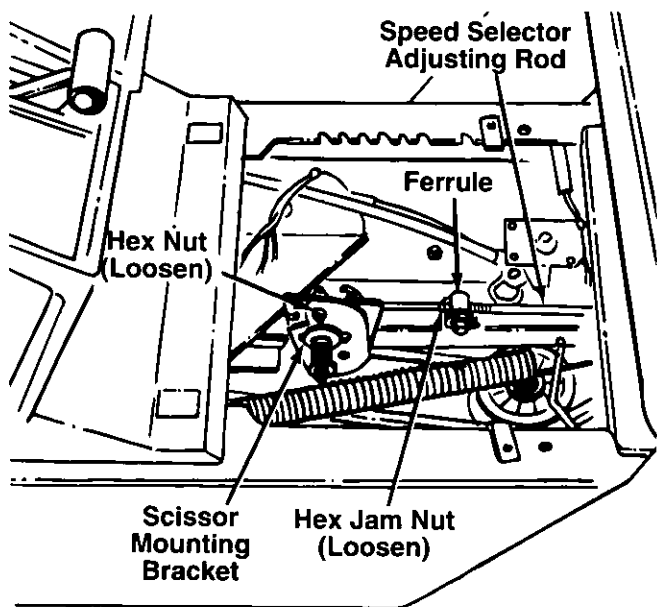

FIGURE 13.
3. Loosen the hex jam nut on the speed selector adjusting rod. See figure 13.
4. Loosen the hex nut on the scissor mounting bracket. See figure 13.